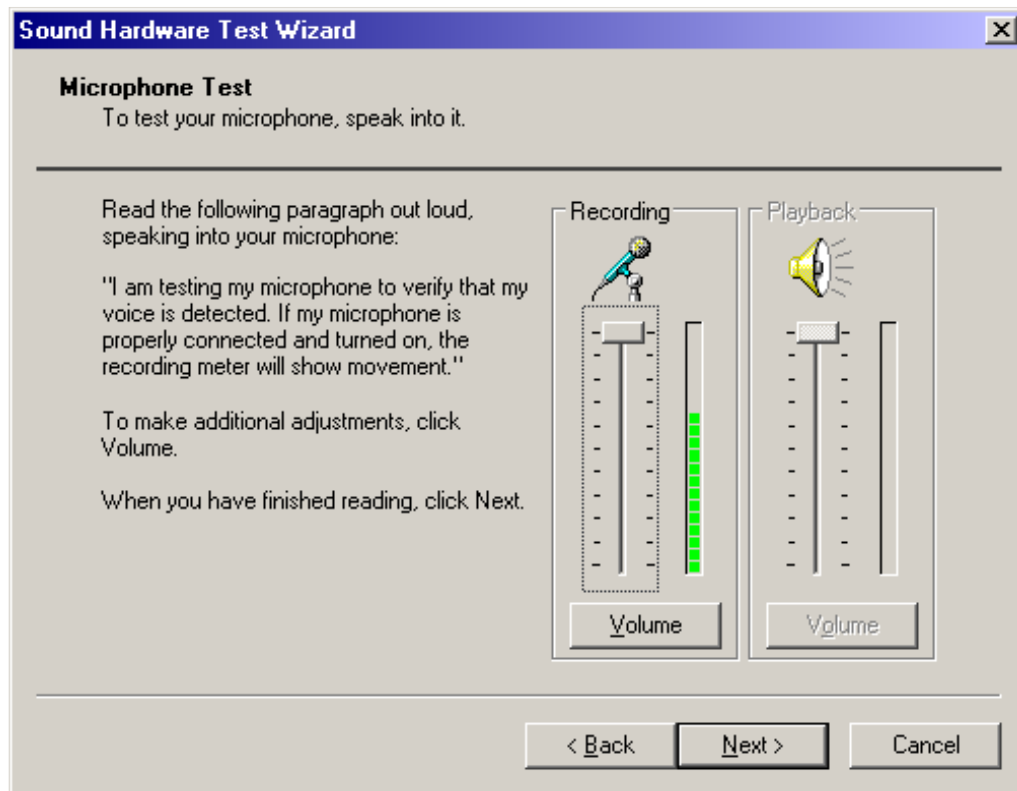

Figure 271. Microphone Test window
9. After the sound hardware test is complete, a new window appears for the Microphone Test, as shown in Figure 271.